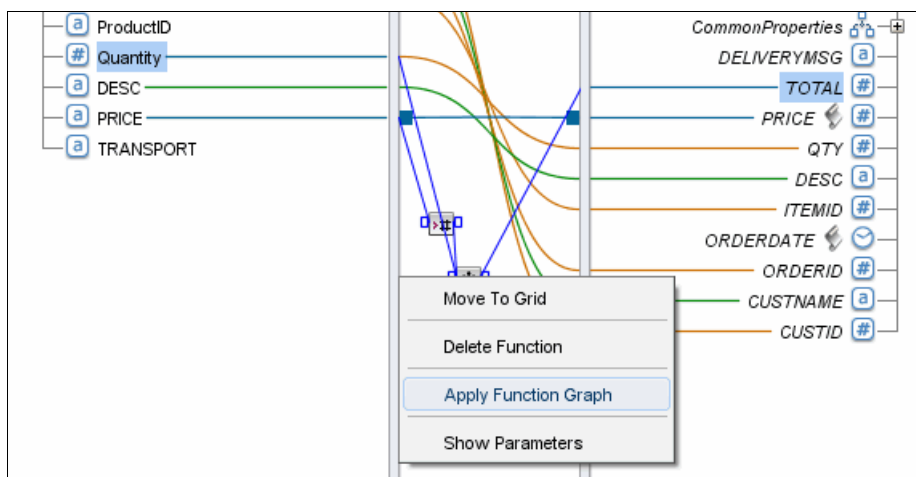

Figure 12-74 Calculating Total
- g. Right-click the **Number** function, and select **Apply Function Graph**. See Figure 12-74.